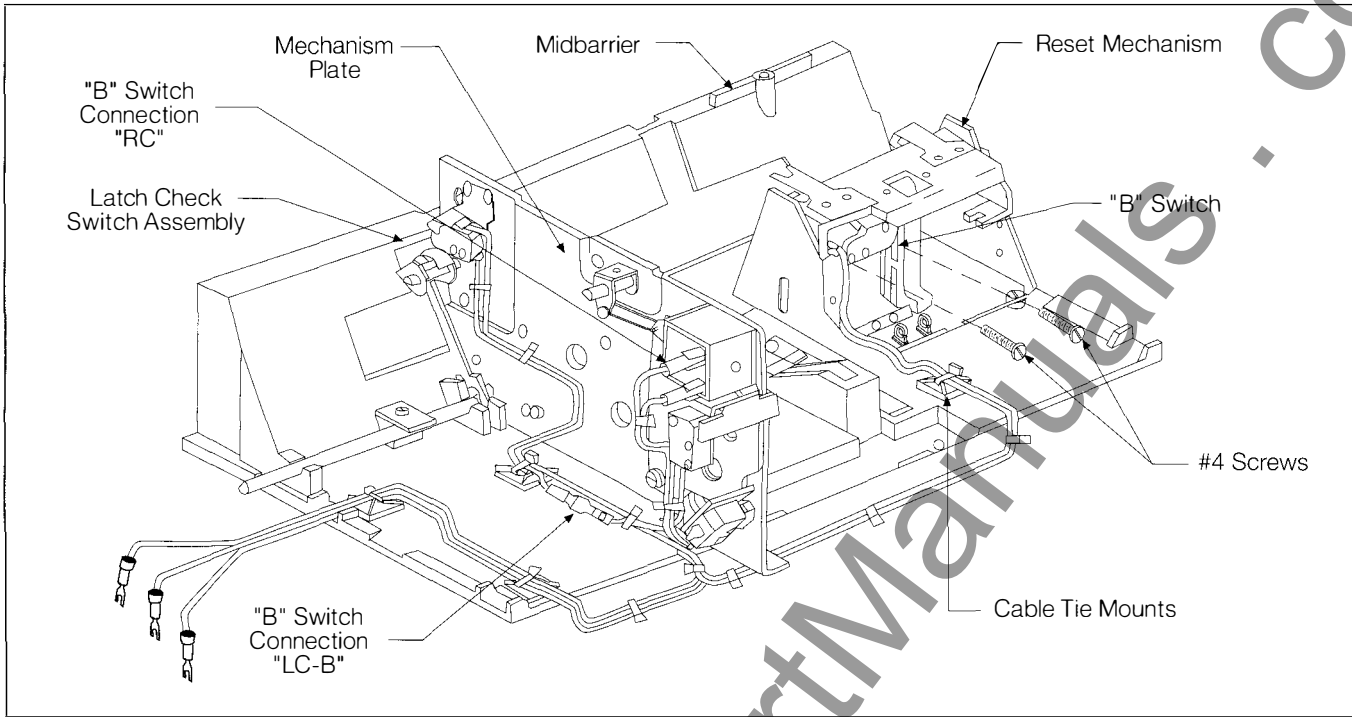

Figure 5. Mounting Of Remote Close Accessory and Wire Routing
- 8.) Locate the reset mechanism (See Figure 5).
- 11.) Route wires from "B" switch (See Figure 5). Route wires beneath mechanism plates as shown. Install cable tie mounts and cable ties (See Figure 5).